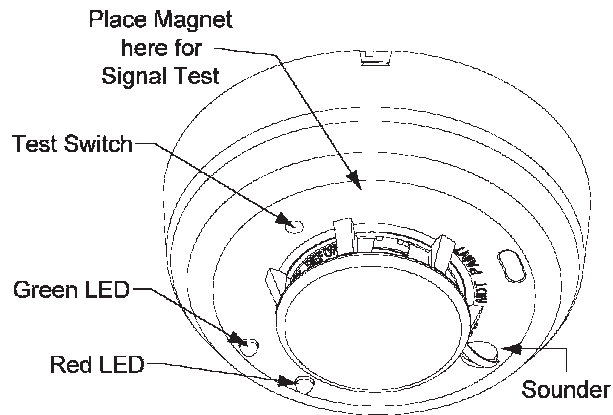

Figure 3 LEDs, Sounder, Test Switch and Signal Test Locations
1. An opening for the recessed test switch is located on the detector housing. (Figure 3)
The test must be performed while the smoke detector is held in its intended mounting location. Initiate the test by placing a strong magnet on the smoke detector housing at the location shown in figure 3. The model 300/301 piezo sounder will beep twice if the transmitter is located within acceptable reception range of a repeater or CP-3000 FACP. If two beeps are not heard within 5 seconds of initiating the signal test then relocate the model 300/301 mounting position closer to the nearest repeater or control panel and perform the test again. Continue this procedure until 2 beeps are achieved. Do not mount the smoke detector unless 2 beeps are heard when performing the signal test. This test **must** be performed before and after transmitter installation. Note: A CWSI model AR-3 repeater or CP-3000 Control Panel must be installed and turned on before running this test.
This switch has multiple functions and is located in an opening on the detector housing as shown in figure 3. To activate the switch insert a small screwdriver or allen wrench (0.18"max.) into the test switch opening; push and hold for 5 seconds. Pressing this switch will not cause an alarm at the control panel.